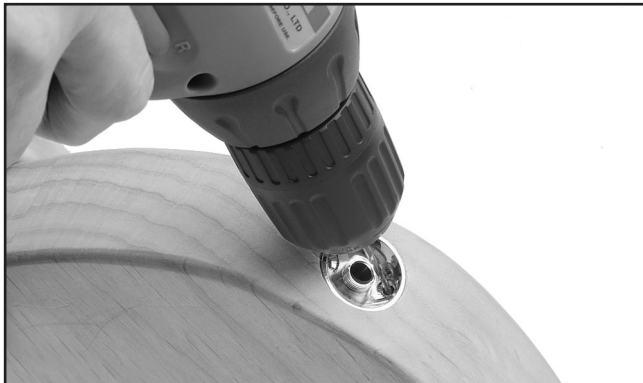

Figure 24. Drilling output jack mounting holes.
- Using a $\frac{1}{16}$ " drill bit, drill $\frac{3}{8}$ " holes at a 45° angle into the body as shown in **Figure 24**.